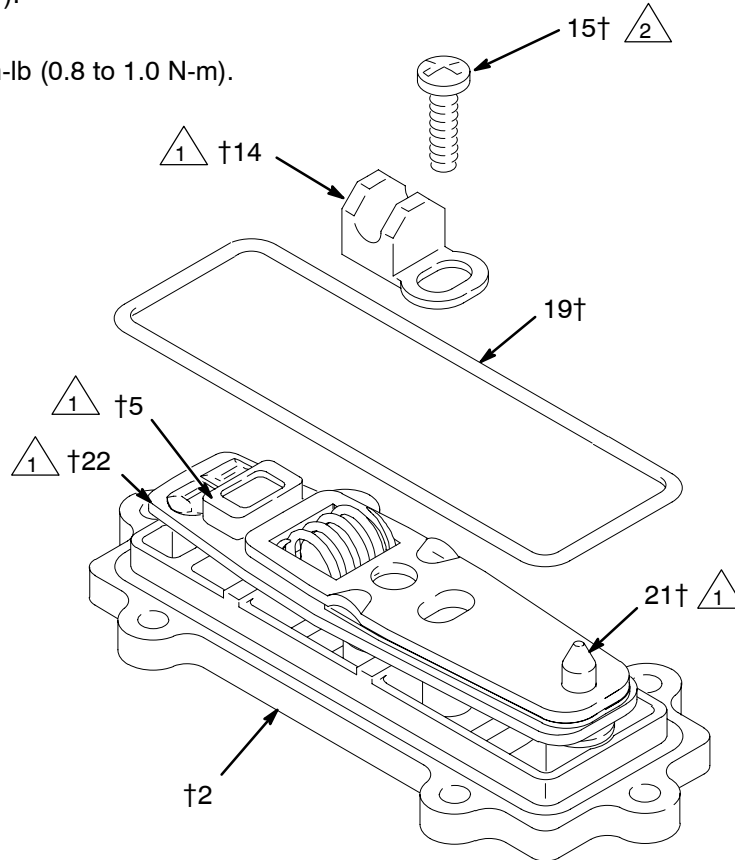

Fig. 9
8. Grease the inside surfaces of the shift saddle (14) and install it as shown in Fig. 9. Hold the link assembly firmly in place and install the screw (15). Torque to 7 to 9 in-lb (0.8 to 1.0 N-m). Install the o-ring (19) on the cover (2).